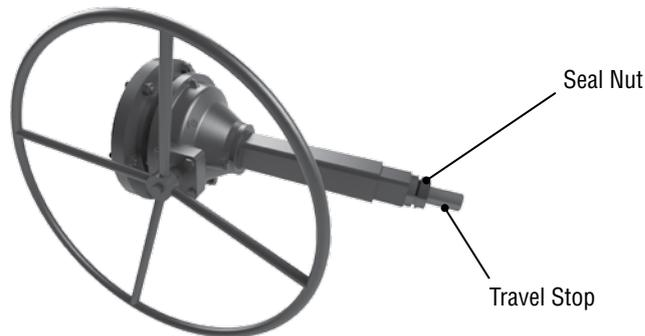

Figure 8 – Bevel Gear Manual Override
2.3.1.1 Loosen the seal nut with a proper wrench (Figure 8).
2.3.1.2 While keeping the seal nut stationary, screw or un-screw the travel-stop (Figure 8) bolt using a proper Allen key.